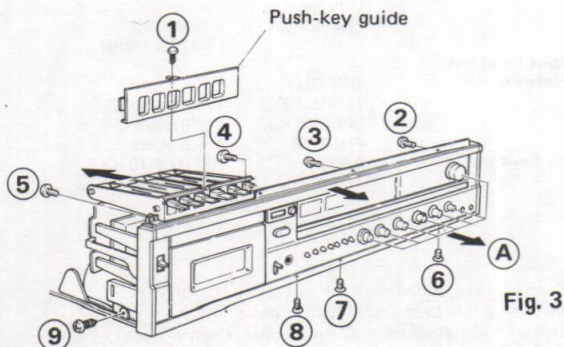

Fig. 3
- 1) Remove mounting screw (1). (Refer to Fig. 3)
- 2) Remove 7 screws, (2) through (8) (Refer to Fig. 3)